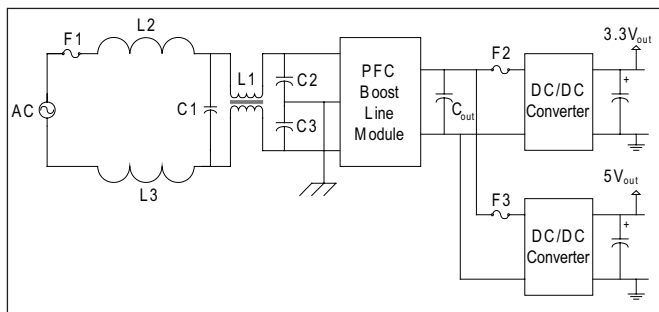

Figure 3: PFC Boost - Typical application circuit, 3.3 & 5V, 60W combined output power.
Product safety standards written by Underwriters Laboratories (UL) and the International Electrotechnical Commission (IEC) require fuses for primary AC power protection and secondary protection against any catastrophic failure within the input filter capacitors, PFC boost module, output electrolytic capacitors ( $C_{out}$ ) or the DC-DC converters. The PFC boost module usually does not contain overcurrent protection; if a short-circuit is applied across its output terminals, there is no internal circuit opening device to safely interrupt the power. Without fuse protection in the AC input line (see fuse F1 in Figure 3), the boost converter is not protected.
Fusing the DC-DC converter input lines is essential for protection against a catastrophic DC-DC converter failure (see fuses F2 and F3 in Figure 3).
Common Cooper Bussmann® fuses applied to the overcurrent protection points in the circuit of Figure 3 are: